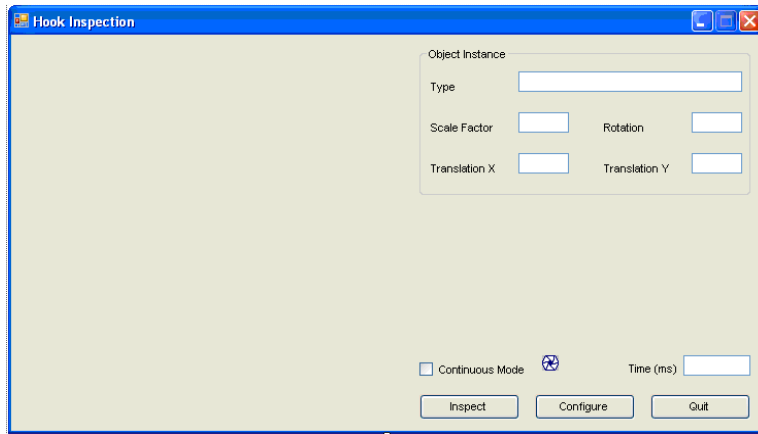

Figure 28 Resized VB .NET Form for Tutorial 2
1. Start by extending the form. Set the width to approximately 735 and the height to approximately 420. Reorganize the text boxes and buttons to look like the form in Figure 28.